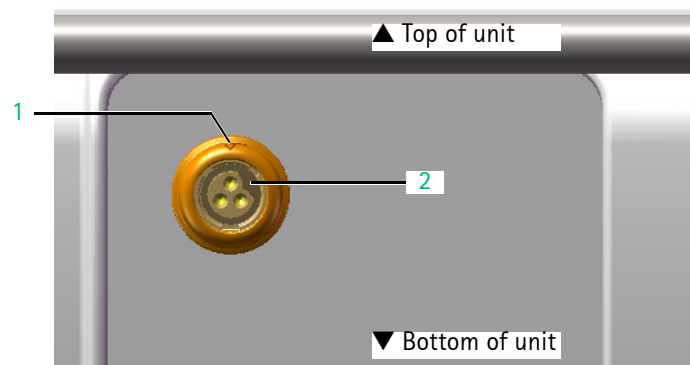

Fig. 3 - 23
1. Observe the alignment aids when mounting the connector (see Fig. 3 - 23).